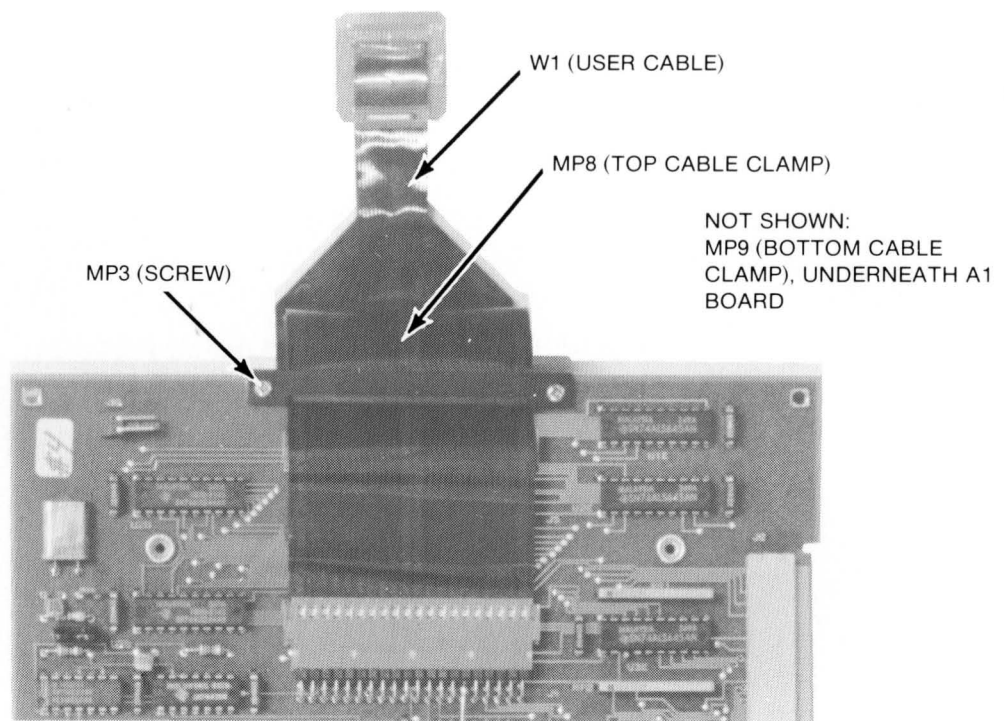

Figure 2-10. User Cable and Cable Clamp Attachment
- l. To remove the user cable (W1) from the emulator pod A1 board, unscrew the two screws (MP3) which hold the ribbon cable clamp halves (MP8, MP9; one on each side of the A1 board) together. See figure 2-10. Grasp each female block connector of the user cable one at a time and pull it away from the matching male block connector. (There are four such connections.)
1. Lay the pod A1 board down on a flat surface with the component side up. (See figure 2-10.) Orient the user cable so that the two short ends of the cable are underneath the long ends and pointing towards the A1 board with the user probe connector pointing away from the board. The short user cable ends should be connected to the male pin connectors nearest one end of the board with the bottom most cable end connected to the bottom male pin connector.
b. Replace the cable clamp by putting the bottom half of the clamp (MP9; threaded sockets) on the circuit side of the A1 board with the protruding side of the clamp pointing away from the circuit board and away from the outside edge of the board. The top half of the clamp (MP8; no threads) should be placed over the user cable on the component side of the board; orientation is the same as for the bottom half. See figure 2-10 for details. Use the two short 2-56 screws (MP3, figure 2-10) to screw together the top and bottom halves of the clamp; be sure not to overtighten the screws, as this would damage the flex cable.